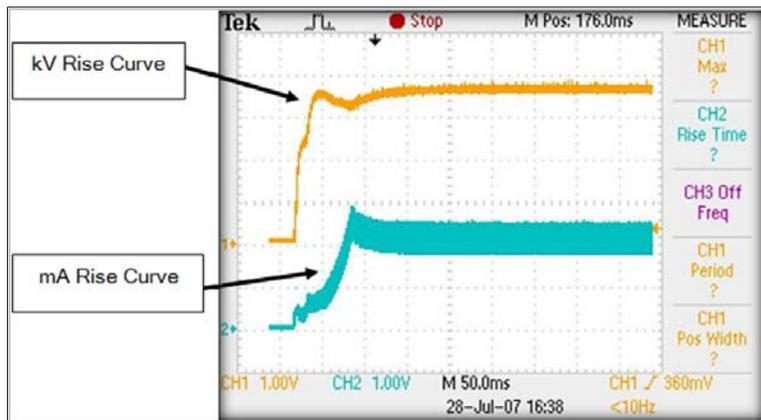

Figure 126: Correct kV-mA Rise Curves
- Using the hand switch, manually turn on the X-ray generator. The kV-mA rise curve should appear as in Figure 126.